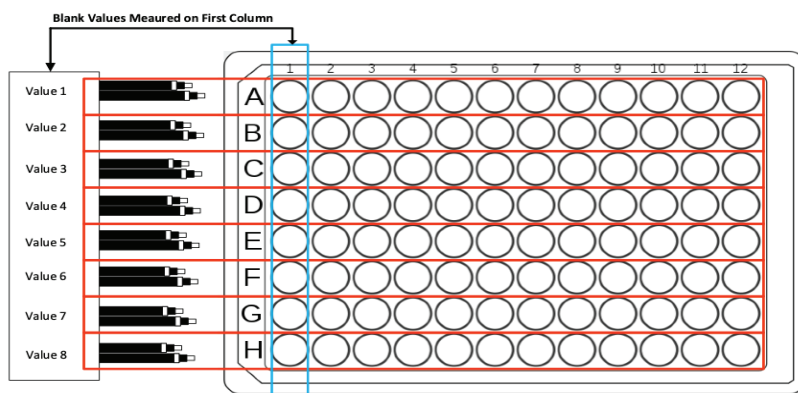

Fig. 21—The values of the blanks are measured to determine the baseline resistance without any cells.
- Select your blank option. This option measures the resistance of the first column (Wells A1, B1, C1... H1), and this value is used as a baseline for each row. Each value on the *Blank Value* table measures the resistance of the specific electrode pair used to measure each column on a well containing only buffer or media. (See the column highlighted in blue in Fig. 21.) These values (Value 1 ... Value 8) are subtracted from the measurements on the corresponding row (Red Rectangles) to obtain the change from the baseline well (the well with no cell growth).